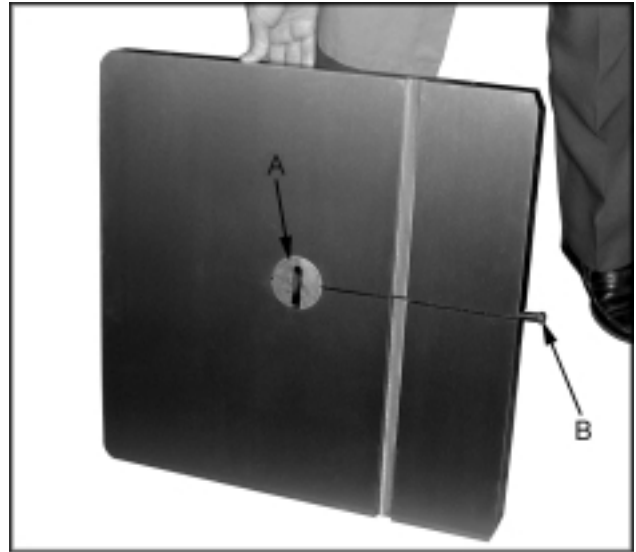

Fig. 5
1. Remove the table insert (A, Fig. 5) and table pin (B, Fig. 5).